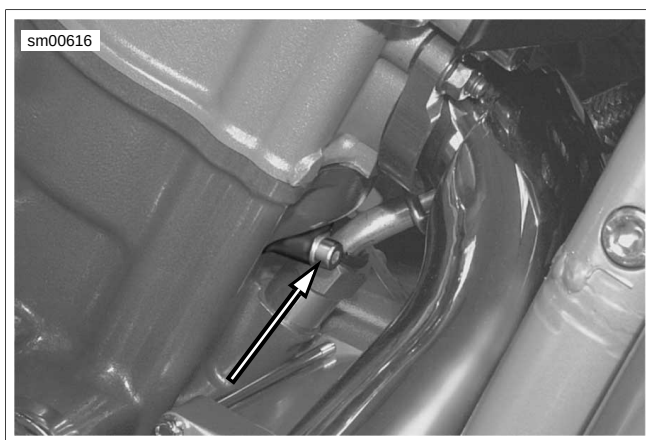

Figure 2-9. Front Engine Coolant Drain Plug
24. See Figure 2-9. Place a suitable container under engine. Remove front engine coolant drain plug. Allow remaining coolant to drain from engine.